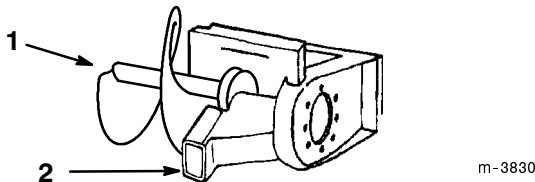

Figure 2
3. Remove the bolt securing the spoils auger and remove the auger (Fig. 2). Save the bolt for future use.
4. Remove the wrench from the the side of the adjusting chamber (Fig. 2).